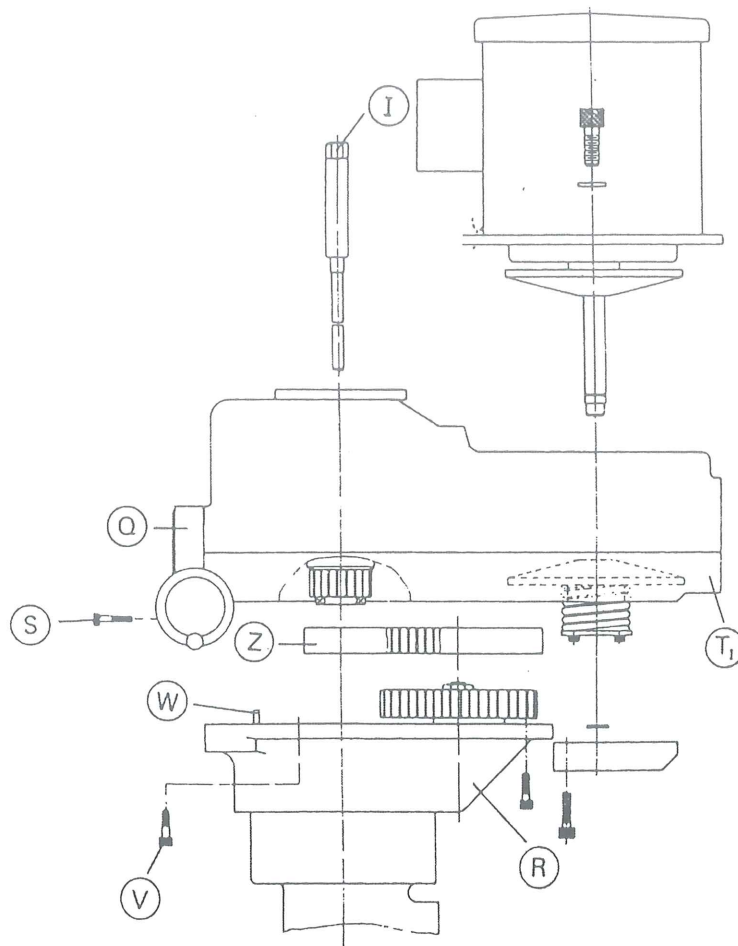

Figure 28
- b. Remove the four bolts "V" (Fig. 28) so housing "T1" can be removed. It may be necessary to use a soft mallet. (Housing "T1" and "R" are pinned together).
- b. Change the timing belt as shown in Fig. 28.